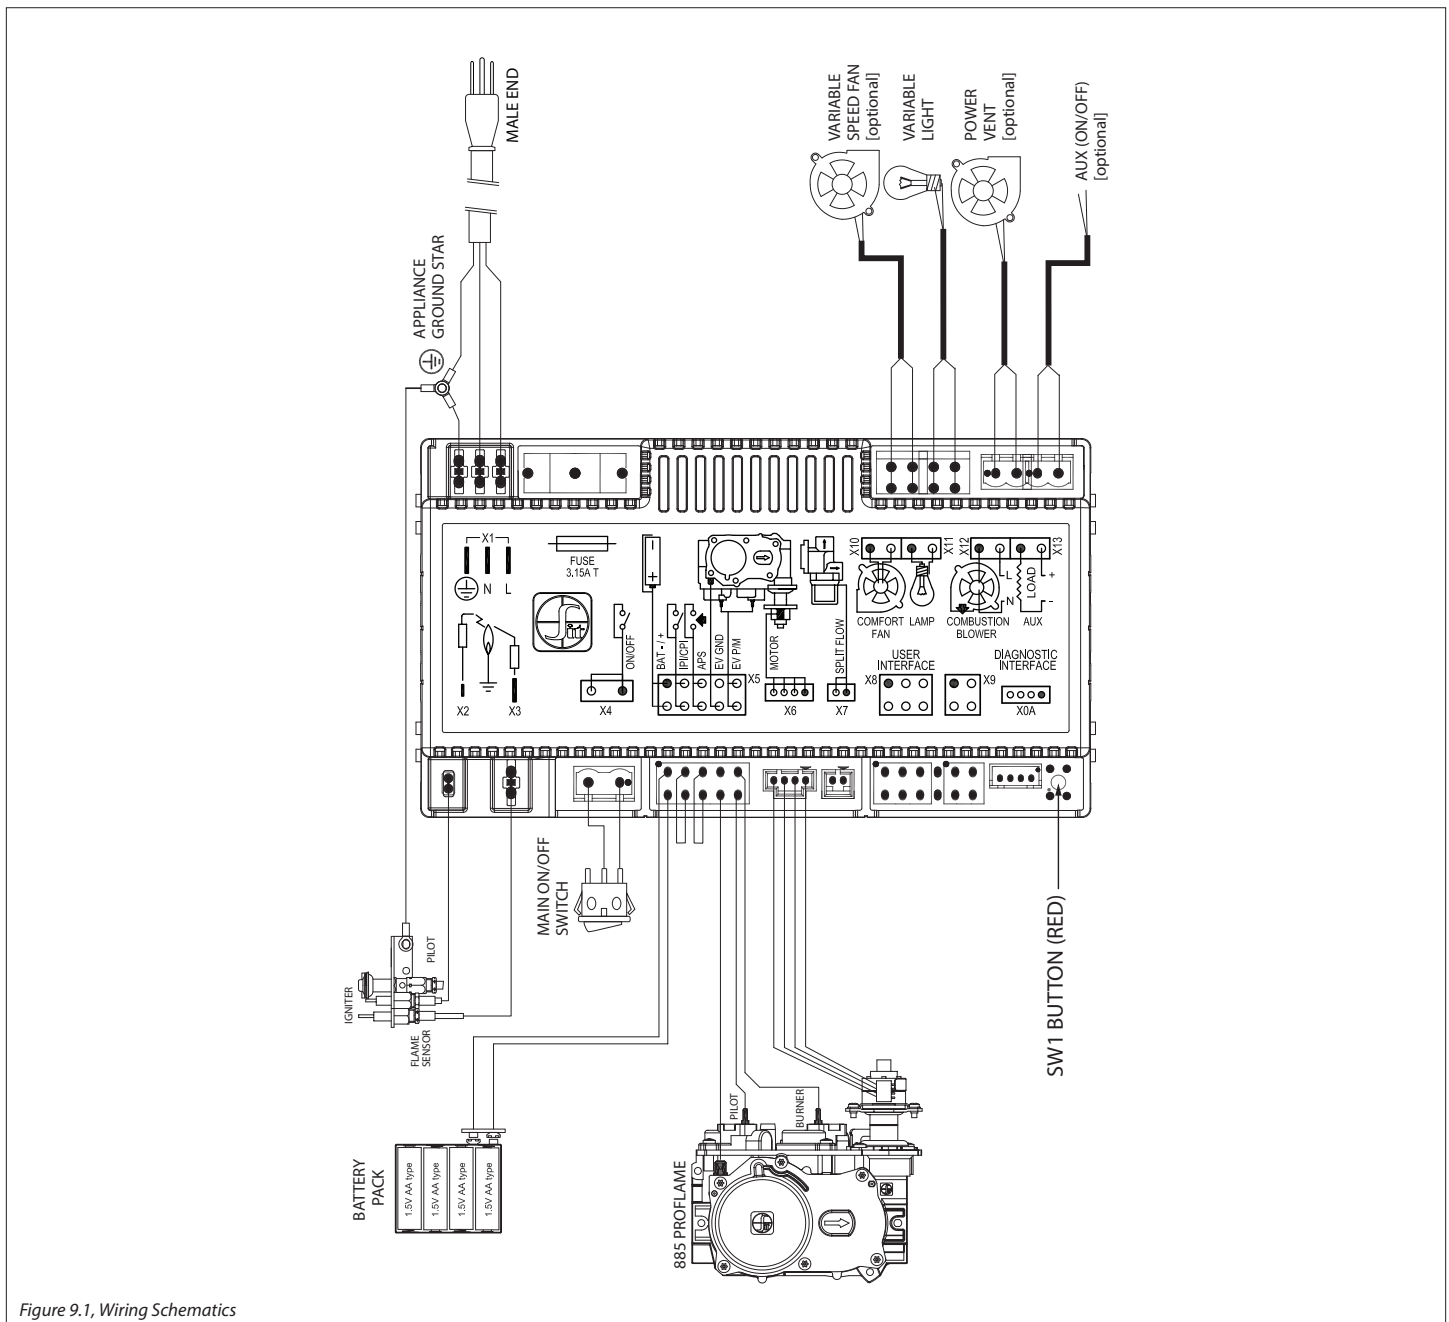

Figure 9.1, Wiring Schematics
9. Plug the fan cord into the receptacle on the IFC control module. See Figure 9.1, Wiring Schematics on page 52.